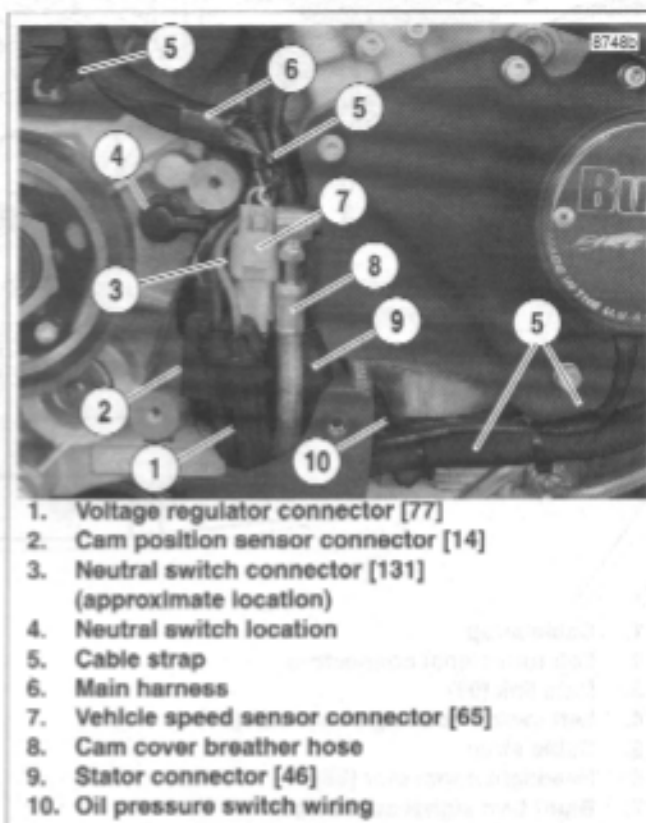

Figure 7-80. Sprocket Cover Wiring
2. See Figure 7-80. Disconnect appropriate connector(s).
See Figure 7-80. All wiring under sprocket cover that gets routed from sprocket area towards front of vehicle is routed behind cam cover breather hose (8).
1. Route oil pressure switch wiring (10) from main harness (6), behind cam cover breather hose (8) to oil pressure switch located on front of engine.